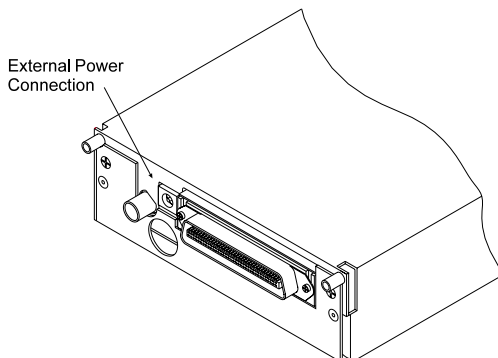

Figure 3 - Panel Mount Apollo NMC Rear Connections
3. Insert the power cord into the power connector shown in Figure 3 or 4.